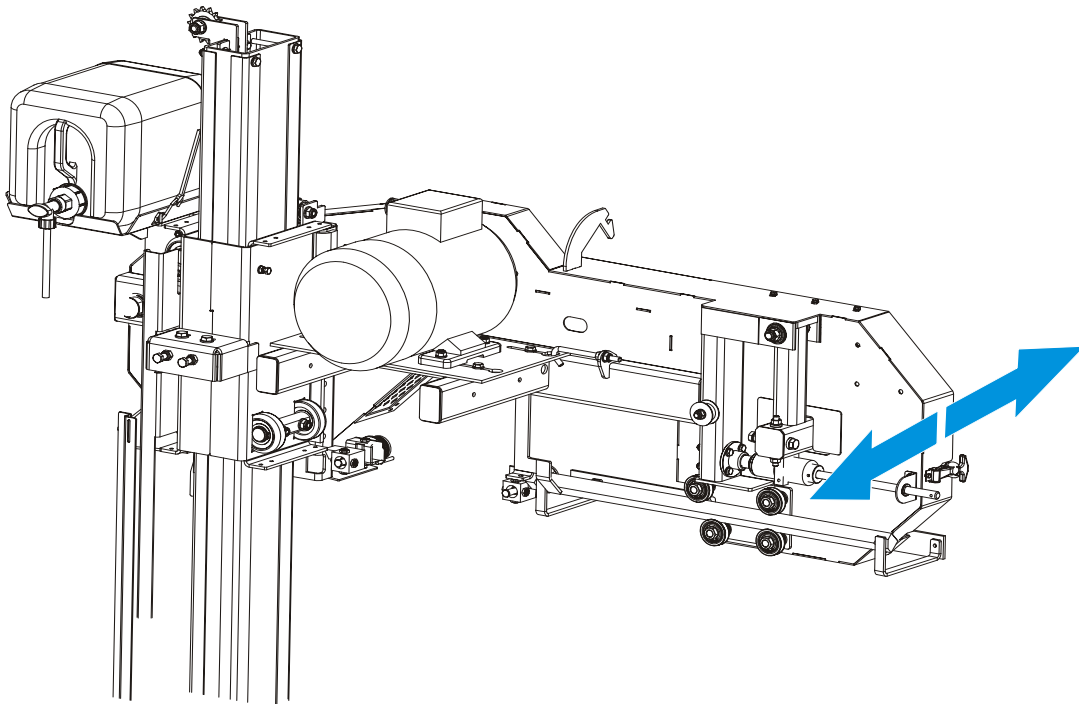

FIG. 5-17
**See Figure 5-17.** To check if the backlash is present, grasp the outside part of the saw head and move it as shown in the figure below. To remove the backlash, perform the following steps: